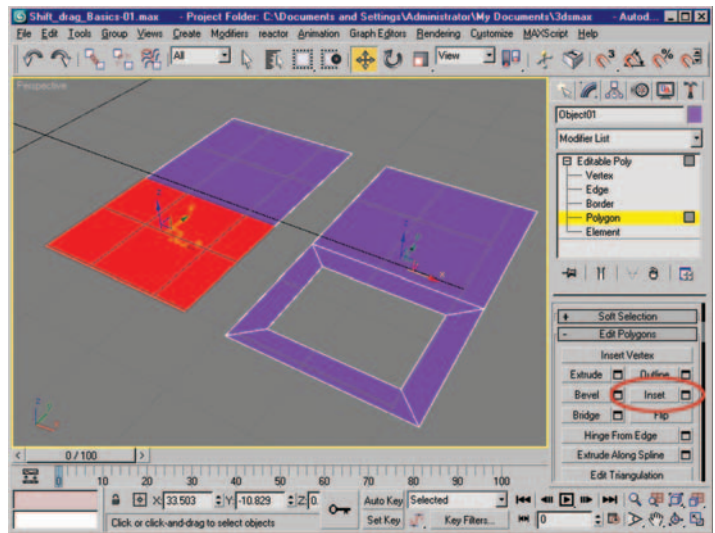

Figure 3.4 Polygon selection and resulting border opening after insetting and deleting new polygon.
1. Working with our base plane object in our viewport, we are going to inset one of the two polygons in our shift-dragged mesh. After insetting the polygon, we delete the new polygon to create an open hole, or border (Figure 3.4).